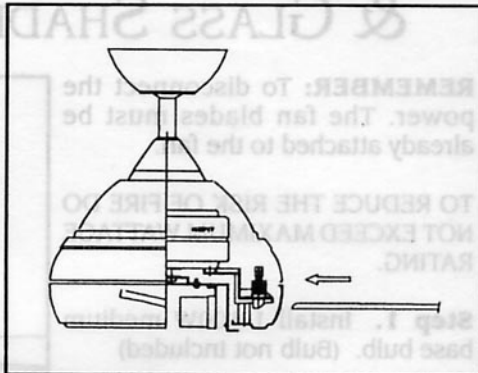

FIG. 15
Step 1. Insert the blades into the motor housing blade slots, push blade until snug. You should be able to hear the inside safety pin fall into the blade hole to secure the blade in place. (Fig. 15)